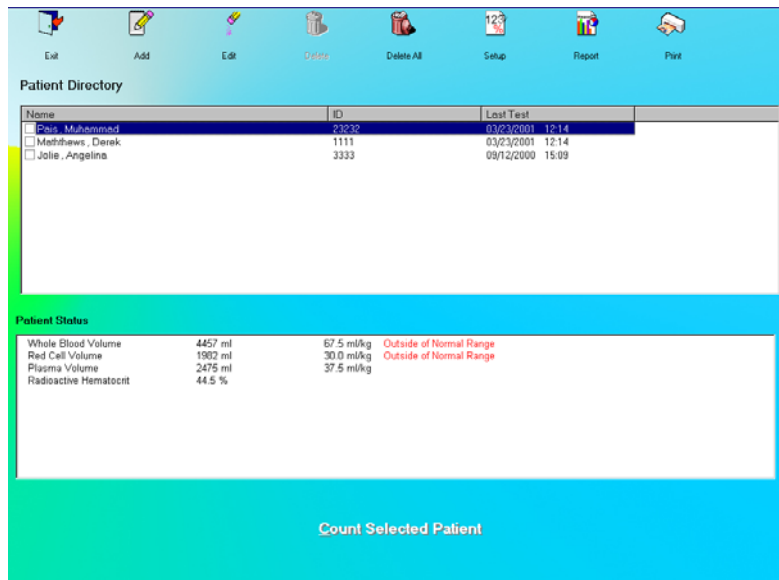

Figure 10-27 I 125 Blood Volume Test Main Screen
Click the  button or press *Alt+I* on Figure 10-1 Lab Tests Main Screen (page 10-2). Figure 10-27 I 125 Blood Volume Test Main Screen will appear. The **Patient Directory** box will be empty if there are currently no existing patients in the database. Each added patient will appear in this box with their name and ID number along with the time and date the last test was performed. The **Patient Status** box will show the data status on the patient if the test has not yet been performed, or the latest test results.
1. Click the  icon on Figure 10-27 I 125 Blood Volume Test Main Screen. The screen appears as shown in Figure 10-28. This screen allows the user to input counting parameters, which will be the default settings each time a patient is entered into the I-125 Blood Volume Test Patient Directory. These settings may be changed as needed for any individual patient or patients.
3. Click the  button to save changes or click the  button to discard the changes and return to Figure 10-27 I 125 Blood Volume Test Main Screen.
**Note:** All fields in **bold** are required, before beginning the I-125 Blood Volume Test. However, you may enter the **Patient Name**, **Date of Birth** and **Patient ID** alone, click the  button and input the remaining information later. The **Patient Status** box on Figure 10-27 I 125 Blood Volume Test Main Screen will display the message "Data Partially Entered".
1. Click the  icon on Figure 10-27 I 125 Blood Volume Test Main Screen. The Patient Information screen appears as shown in Figure 10-29, with information to be entered in three sections.
8. To add more patients, click the  icon on Figure 10-27 I 125 Blood Volume Test Main Screen.
- Click the **Done** button to save changes or click the **Cancel** button to discard the changes and return to Figure 10-27 I 125 Blood Volume Test Main Screen.